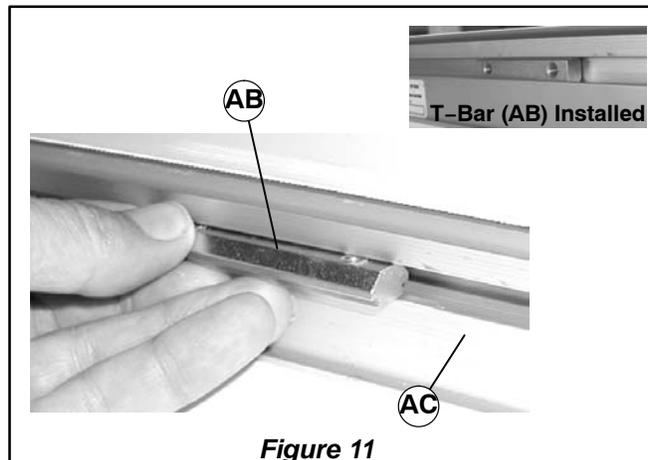
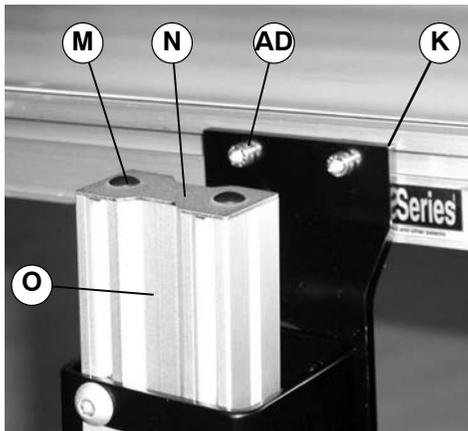

Figure 11
Figure 12
- Install one t-bar (AB of Figure 11) in bottom t-slot on each side of conveyor (AC).
16. Attach pivot bracket (K of Figure 12) to t-bar (AB of Figure 11) with two socket head screws (AD of Figure 12). Do not tighten screws.
18. Tighten four socket head screws (AD of Figure 12) to 124 in-lb (14 N-m).
22. Attach tube end cover (N of Figure 12) on stand leg (O) with two plastic tree rivets (M).